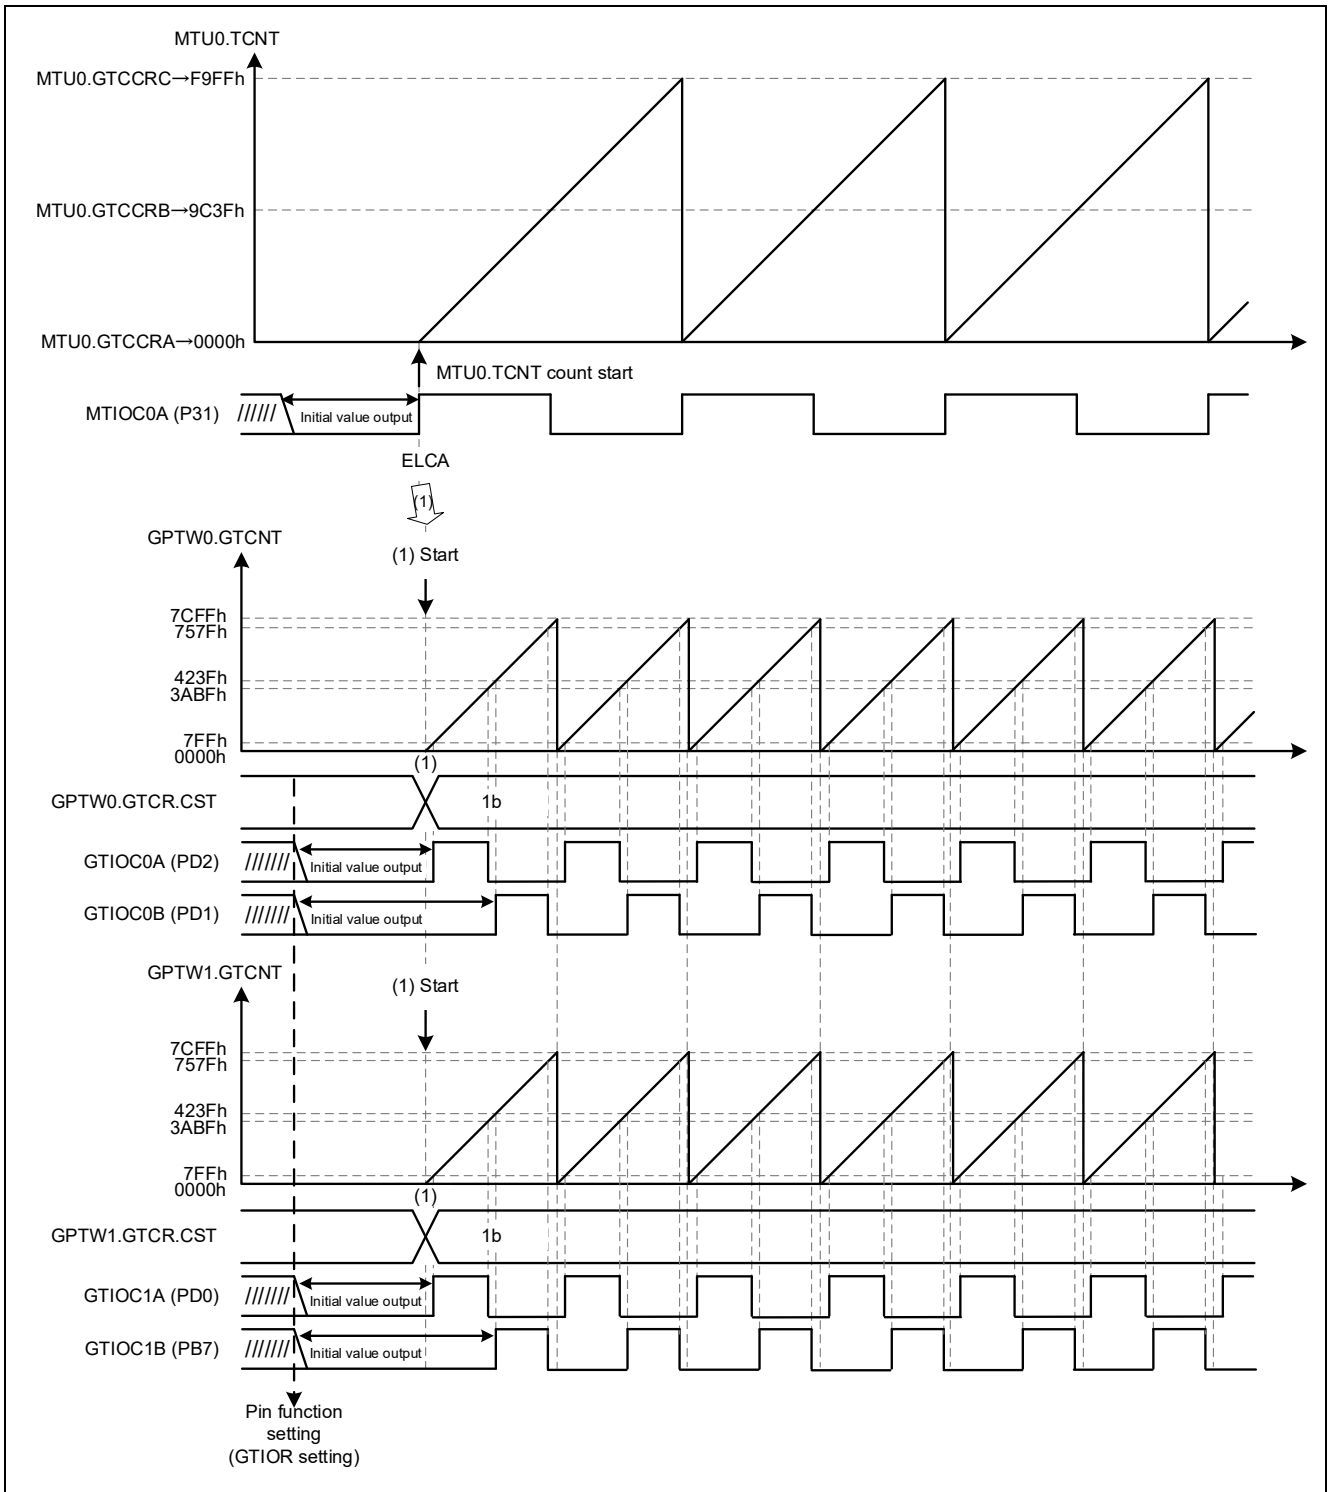

Figure 4.44 Example of MTU and GPTW Synchronous Operation by ELC Event Input
Figure 4.44 shows the synchronous count start operation for GPTW0 and GPTW1 when counting starts in MTU0.
Synchronous count starts for GPTW0 and GPTW1 at the MUT0.TGRA compare match (TCNT count value: 0000h) by ELCA event input ((1) in Figure 4.44).